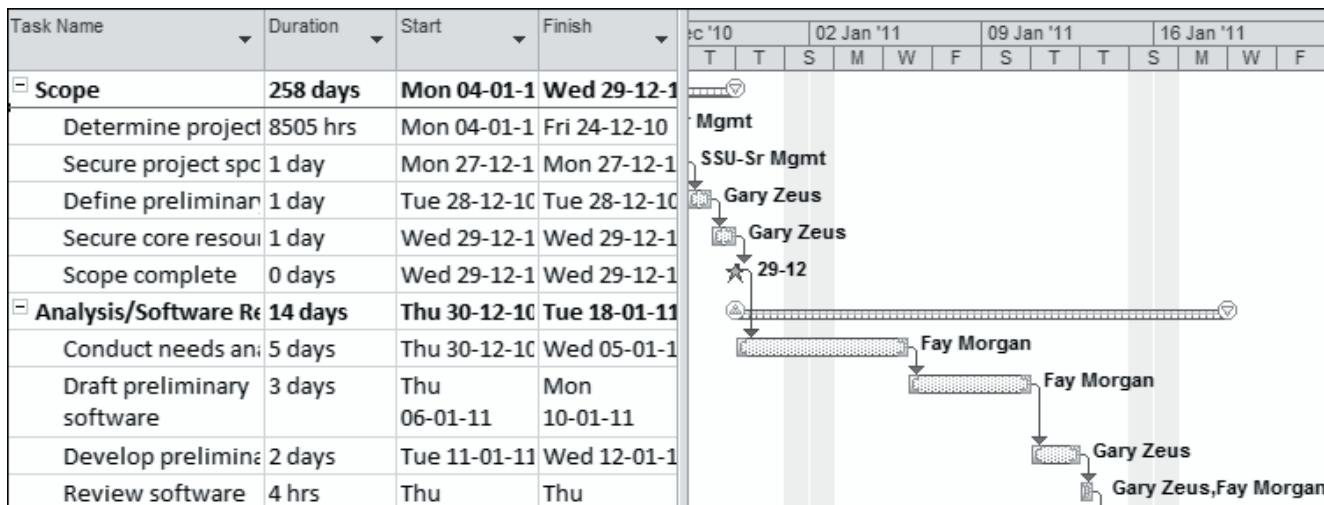

Figure 14.2: Outcome of Gantt Chart with Customized Bar Styles
10. Click **OK** to apply the formatting changes for the taskbars as shown in figure 14.2.